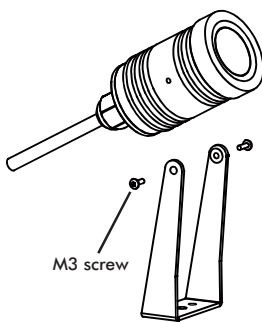

Fig 2.1
2.1 Separate the bracket from housing by unscrew the M3 screws by allen key. (See Fig 2.1)